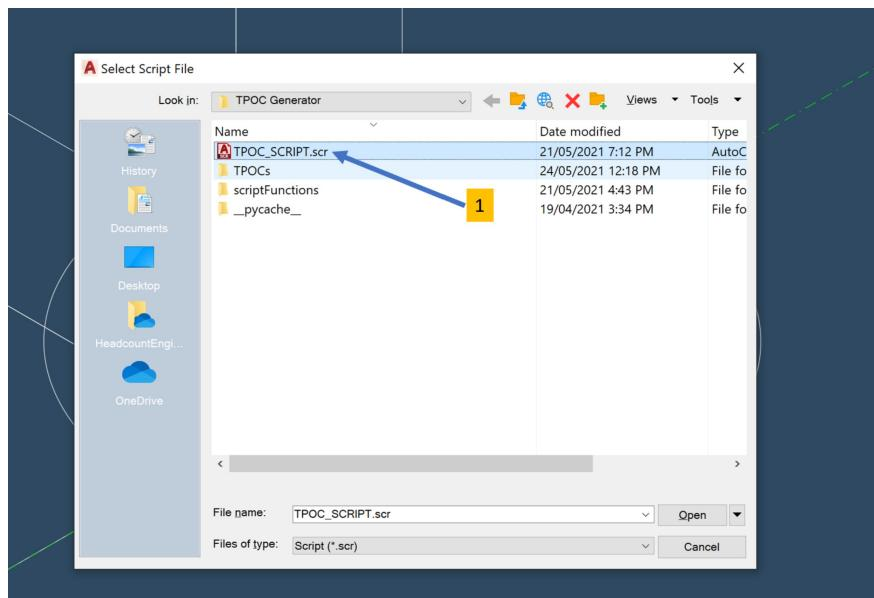

Figure 17: TPOC Generation Script within TPOC Generator Folder
3. Locate the **TPOC_SCRIPT.scr** file within TPOC Generator and open it as shown in Figure 17